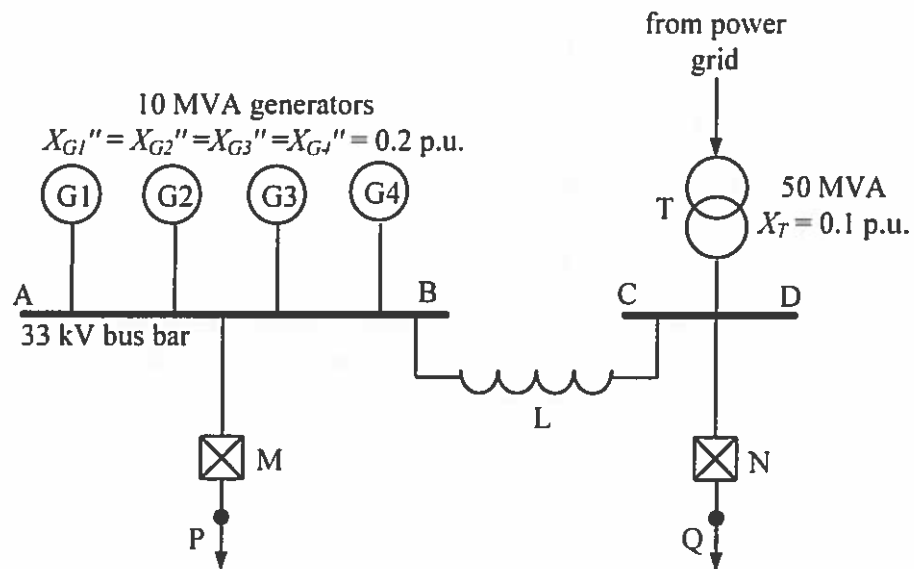

Figure 4.1: Single-line diagram of the 33 kV substation in Question 4(b) and 4(c)
- b) The bus bar arrangement within a 33 kV substation is shown in Figure 4.1. The two sections of the 33 kV bus bar (AB and CD) is separated by a reactor L. Section AB is fed from four identical 10 MVA generators each having 0.2 p.u. sub-transient reactance. Section CD is fed from the power grid through a 50 MVA transformer with a reactance of 0.1 p.u. Each of the circuit breakers M and N has a short circuit capacity of 600 MVA. Consider 50 MVA base for your calculations. For a 3-phase fault at location P,
- c) For the same sub-station arrangement as shown in Figure 4.1 and described in part (b) of this question, determine the reactance (in ohms) of the reactor L if the circuit breaker N is not be overloaded due to a 3-phase fault at location Q. Consider 50 MVA base for your calculations.